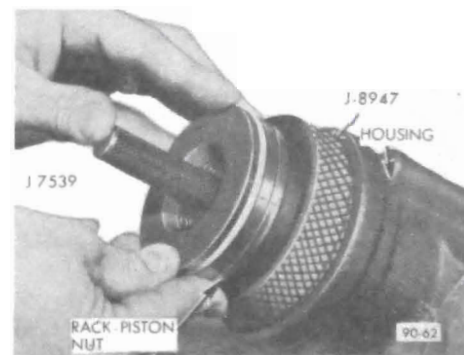

Figure 90-74 Installing Rack-Piston Nut - 43-44-45000 Series
6. Install ring compressor sleeve tool (J-8947 used for 43-44-45000 Series, J-7576 used for 46-48-49000 Series) in gear housing and hold it tightly against shoulder in the housing. See Figures 90-74 and 90-75. Insert the rack-piston nut into the housing until the ball retaining tool J-7539 engages the worm. Turn the stub shaft drawing the rack-piston nut